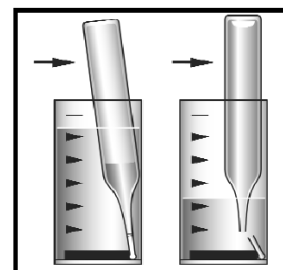

Figure 3
5. Immediately place the ampoule, tip first, into the sample cup. Stir briefly to mix the contents of the cup, then snap the tip. The ampoule will fill leaving a bubble for mixing. (Fig. 3)